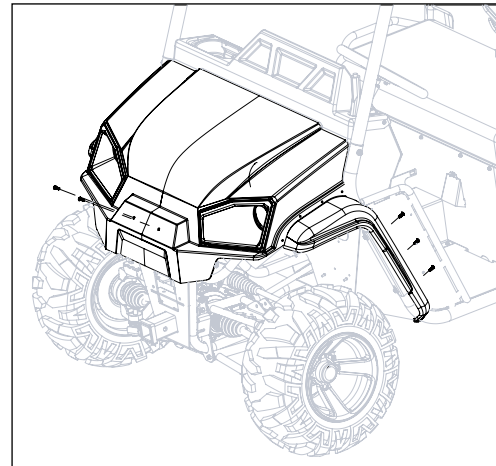

figure 4.13 (hood removal) Note: Rotate screws right to loosen and left to tighten.
1. Using 4mm Allen Wrench, remove the (2) front hood fasteners and the 6 rear fender fasteners as shown in Fig 4.13.